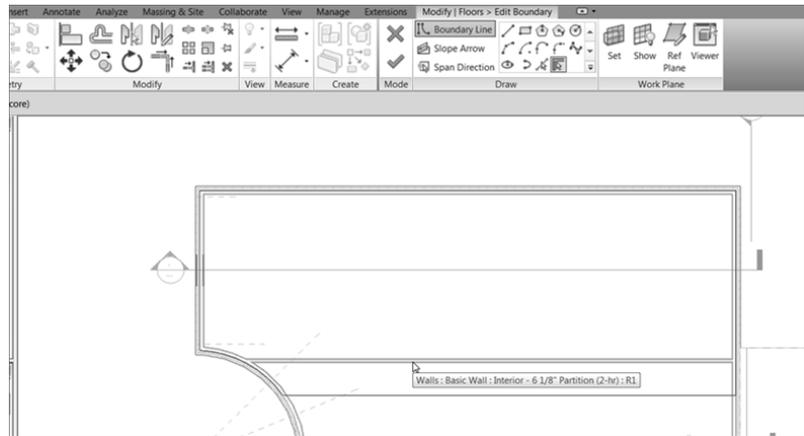

FIGURE 10.54: Adding the floor outline to the walls. Be sure to offset the line 5′–0″ (1500 mm) from the south wall. This will be the stair landing.
8. Pick the walls, and make sure the lines are set to the core centerline, as shown in Figure 10.54.
3. Find Handrail – Rectangular, and double-click it (see Figure 10.54).